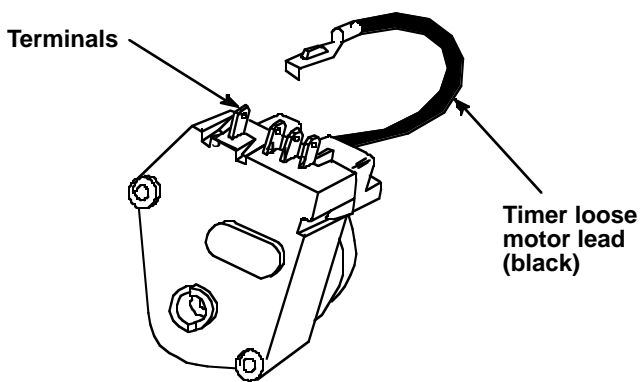

Figure 4
1. Remove plastic insulator from loose black timer motor lead. See Figure 4.